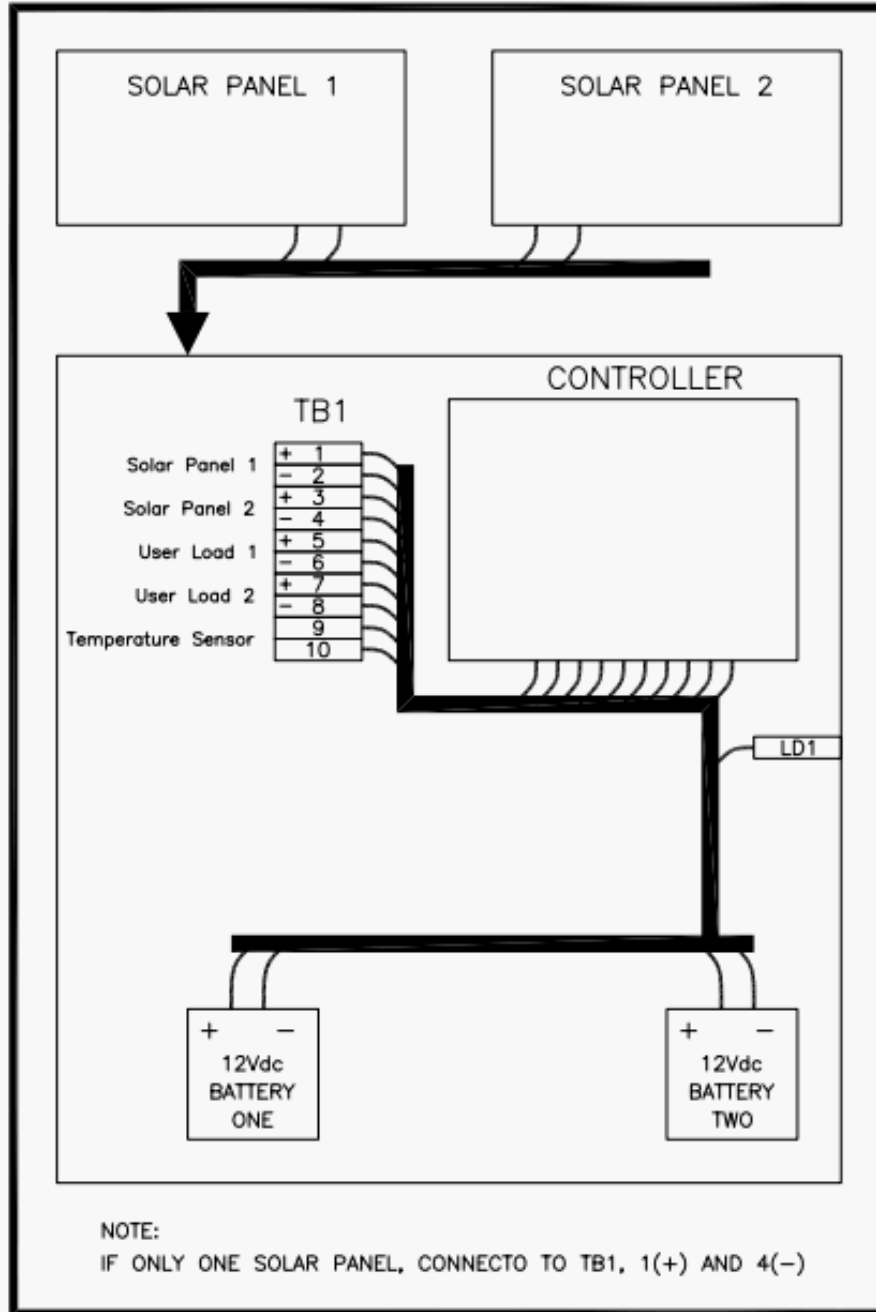

Figure 11
23. Each Battery has a pig-tail wire harness. Connect each battery pig-tail to the Electronic Control Box wire harness mating connector. Also, refer to Figure 11 wiring diagram. Then, connect the output of the Solar Panel to the wires tied to the top of the 'T' bar. They are polarized and can only mate one way. These two wires run into the Electronic Control Box and affix to TB1(1) and TB1(4).
24. Connect the 24 Volt SonicSolutions® Power Control Box to TB1 as shown in Figure 11, where it is designated 'User Load 1'. Connect the Red Positive Wire to User Load 1 '+' (TB1-5) and the Black Negative Wire to User Load 1 '-' (TB1-6). Note, the Sonic Solutions Leads come with Ring Terminals. Cut these terminals off and strip the wire insulation to expose the copper wire. Then insert wire into TB1-5 and TB1-6.